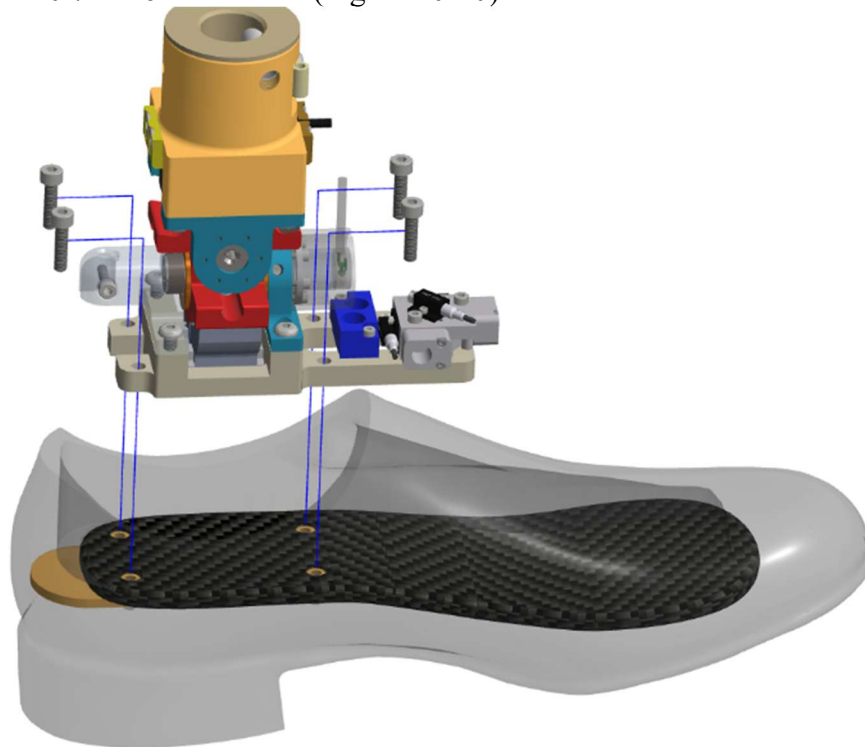

Figure 10-20. Remove the Molded Shoe Assembly (474-5903-1,2)
10.2.16 Remove the Molded Shoe Assembly (474-5903-1,2) from the ankle by removing four M4 X 0.7 X 16 LG. SHCS (Figure 10-20).